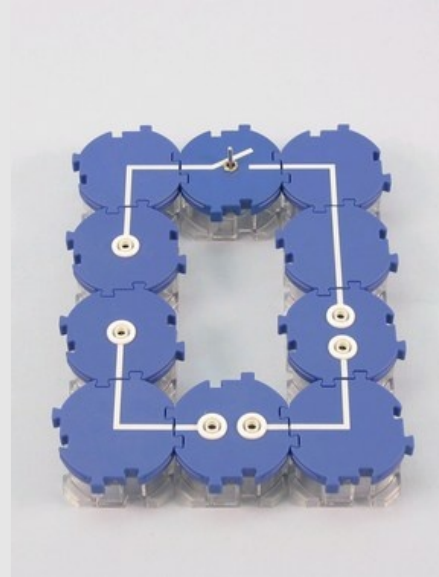
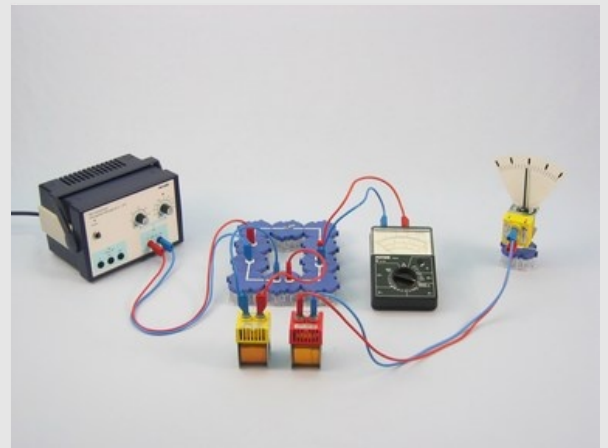

Fig. 1
Fig. 2
- Set up the experiment according to Fig. 1 and Fig. 2. First, the switch is open and the yoke is not in the field coil (400 turns). Use two 50 cm long leads for the connection between the galvanometer and the induction coil (1600 turns).